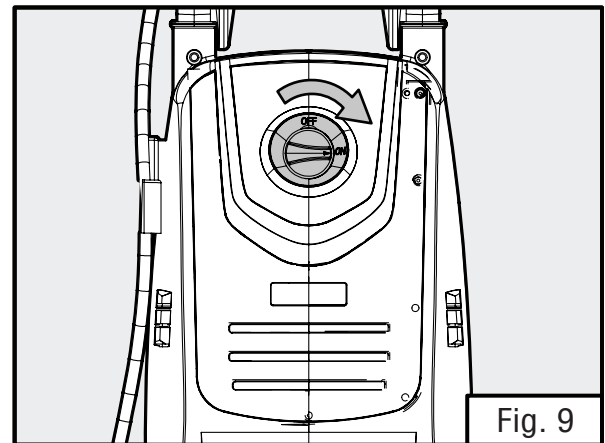

Fig. 9
2. Point the gun at a safe direction, aimed away from any bystanders or animals. Set the ON / OFF switch to ON (Fig. 9).